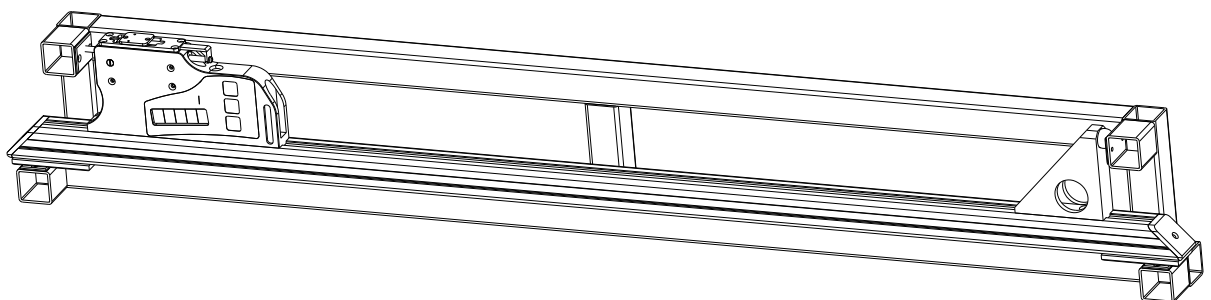

Figure 3
- Press the **Green** button, and the length value starts blinking, which means that the device must be placed onto calibration tool. The measurement tip and support ball of the gauge must be tightly fitted to the flat plates of calibration tool (figure 3).